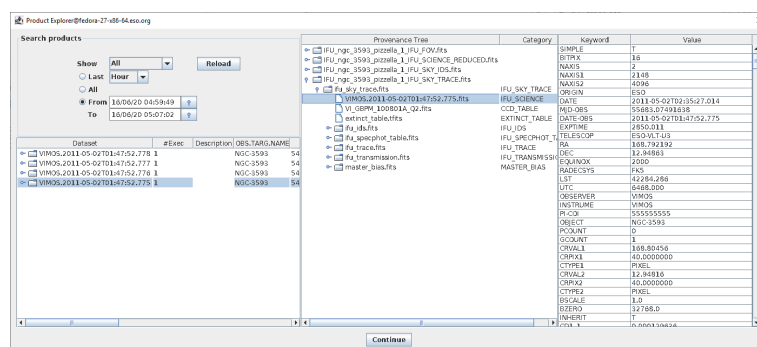

Figure 3.4: The Product Explorer shows all datasets reduced in previous executions together with the full reduction chain for all the pipeline products.
9. Once the reduction of all datasets has finished, a pop-up window called *Product Explorer* will appear, showing the datasets which have been reduced together with the list of final products. This actor allows the user to inspect the final data products, as well as to search and inspect the input data used to create any of the products of the workflow. Figure 3.4 shows the *Product Explorer* window. A full description of the *Product Explorer* will be presented in Section 6.3.5.